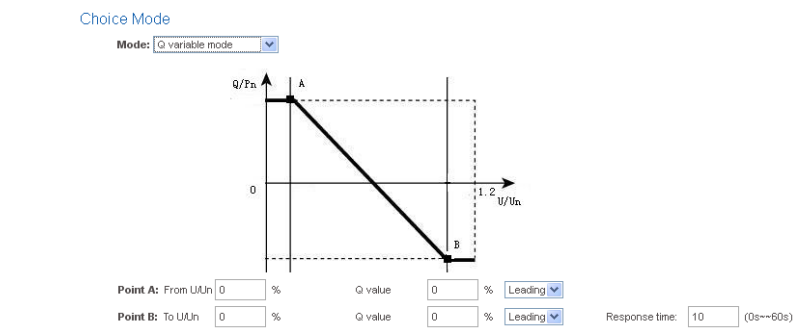

Fig. 6-15: Q variable mode
- Q variable mode: In this mode, the ZeverManager will produce a curve according to the "U/Un", "Q value" and phase position of points A and B, and will regulate the reactive power according to this curve, as shown in Fig. 6-15.